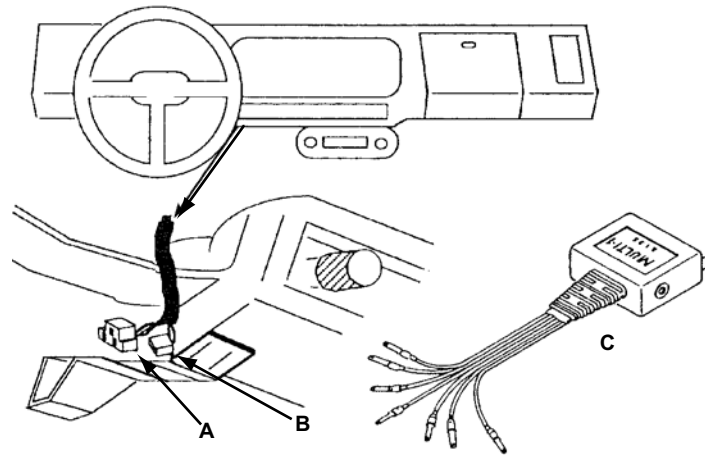

Figure 10-4 1986-87 Trooper connectors and adapter
- Connect the MULTI-1 adapter to the ALDL or diagnostic connector (Figure 10-4 on page 100).